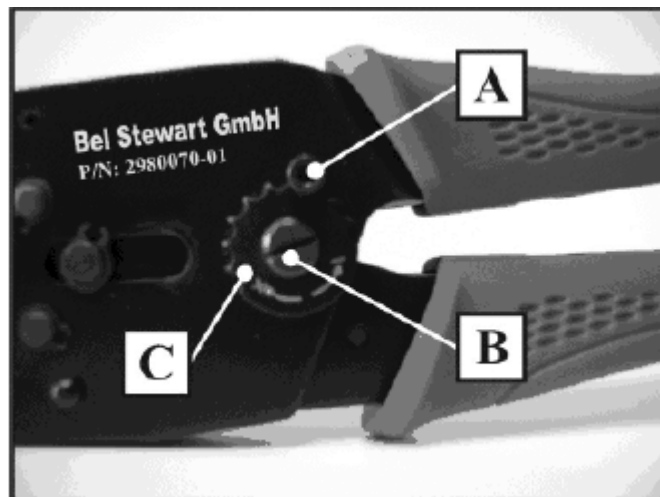

Figure 8
1. Loosen and remove allen head screw (A) using a 2.5mm allen wrench. (Fig.8.)
2. Using a screw driver turn eccentric axle (B) and toothed adjustment wheel (C) into new position.